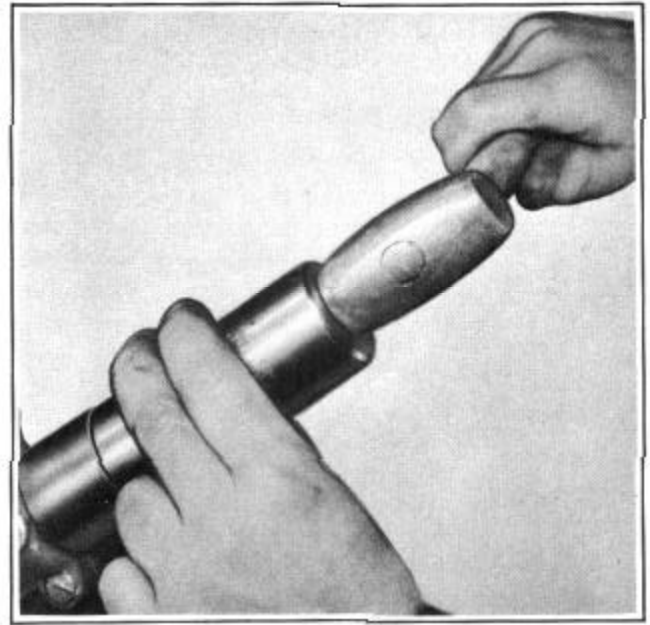

FIGURE 4
2. Using Replacer tool J-2952, Figure 4, drive bearing to a depth of  $31/32$ " on cars without direction indicator. If car is equipped with direction indicator, drive bearing to a depth of  $1-11/32$ " from top of tube.